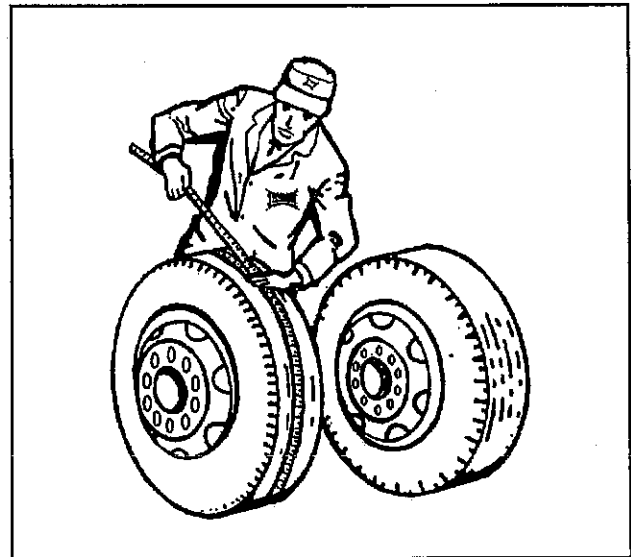

Figure 4-11 Measuring Method
a. Tape Measuring Method. Measure around each tire on the tread surface. A maximum difference of $3/4$ " is allowed between the two mating tires of a dual (See Figure 4-11).